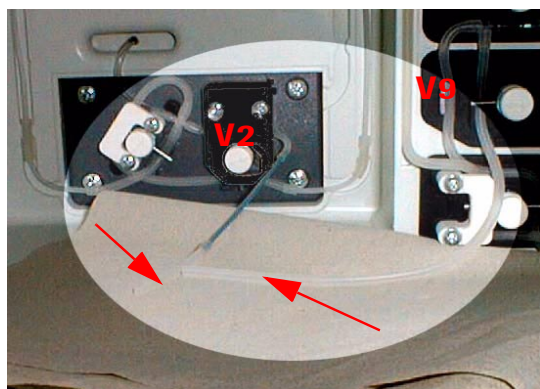

Fig. 34
- Place both ends of the tube onto an absorbent pad, such as a paper towel or gauze (see Fig. 34).